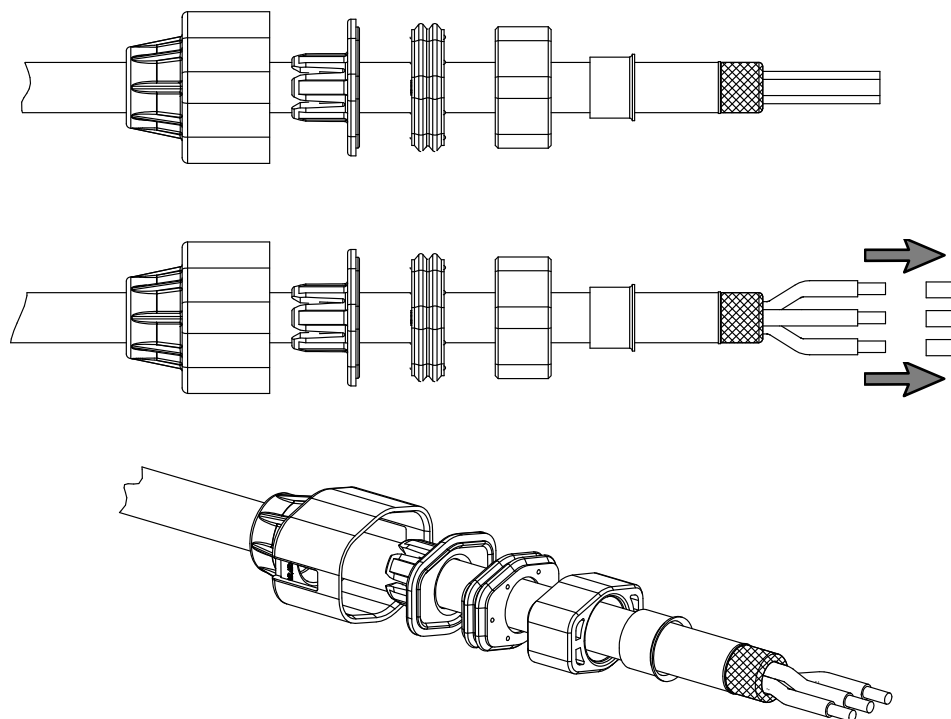

Figure 7
5. Separate conductors and strip to length as shown in Figure 7. Refer to Application Specification 114-18387 or 114-18148-1 for appropriate strip length.